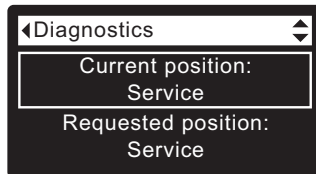

FIG. 161
4. Press the UP (▲) button to scroll through the list until **Current position** is displayed (See Figure 161).